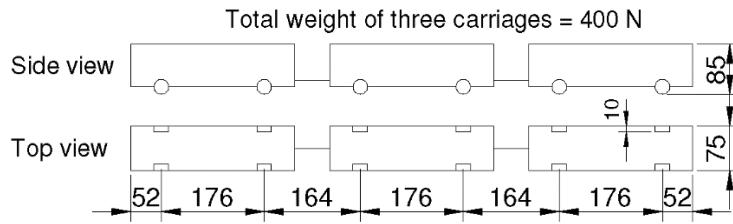
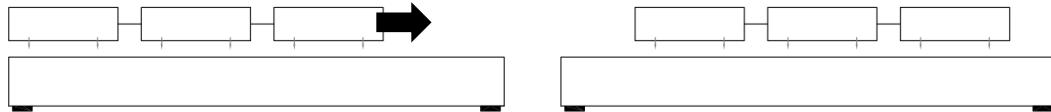

Figure 3. Train dimensions.
Figure 4. Loading schematic showing the movement of the train.
A train comprised of three (3) cars will be pushed across your bridge. The dimensions of this train (in millimetres) and an illustration of the train movement are shown in Figure 3 and Figure 4.